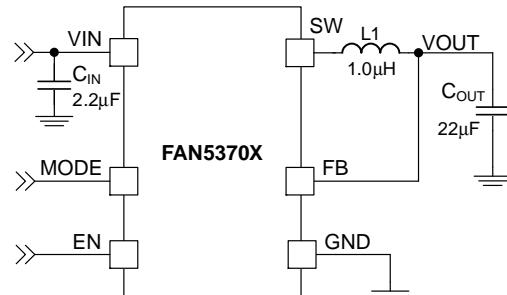

Figure 1. Typical Application
**Table 8. SYSTEM CHARACTERISTICS** Recommended operating conditions, unless otherwise noted,  $V_{IN} = 2.3$  V to  $5.5$  V,  $T_A = -40^\circ\text{C}$  to  $+85^\circ\text{C}$ ,  $V_{OUT} = 1.8$  V. Typical values are given at  $T_A = 25^\circ\text{C}$ ,  $V_{IN} = 3.6$  V. System characteristics are based on circuit per Figure 1.  $L = 1.0 \mu\text{H}$ ,  $2.3$  A,  $107 \text{ m}\Omega$  DCR, DFE160810S-1R0M (TOKO),  $C_{IN} = 1 \times 2.2 \mu\text{F}$ ,  $6.3$  V, 0402 (1005 metric), C1005X5R0J225M050BC (TDK) and  $C_{OUT} = 1 \times 22 \mu\text{F}$ ,  $6.3$  V, 0603 (1608 metric), C1608X5R0J226M080AC (TDK).
Unless otherwise specified,  $V_{IN} = 3.6$  V,  $V_{OUT} = 1.8$  V, Auto Mode,  $T_A = 25^\circ\text{C}$ ; circuit and components according to Figure 1 and Table 2.